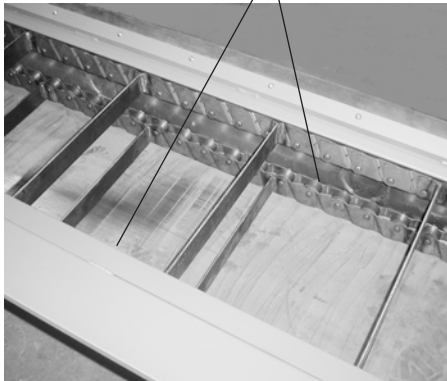

Figure 11. Checking Drag Chain Tension
- Check drag chain tension approximately mid-way in the load section by lifting each chain from the bottom of the load section (Figure 11). Chain slack at this position should be approximately 25 to 38 mm (1 to 1-1/2 inch).